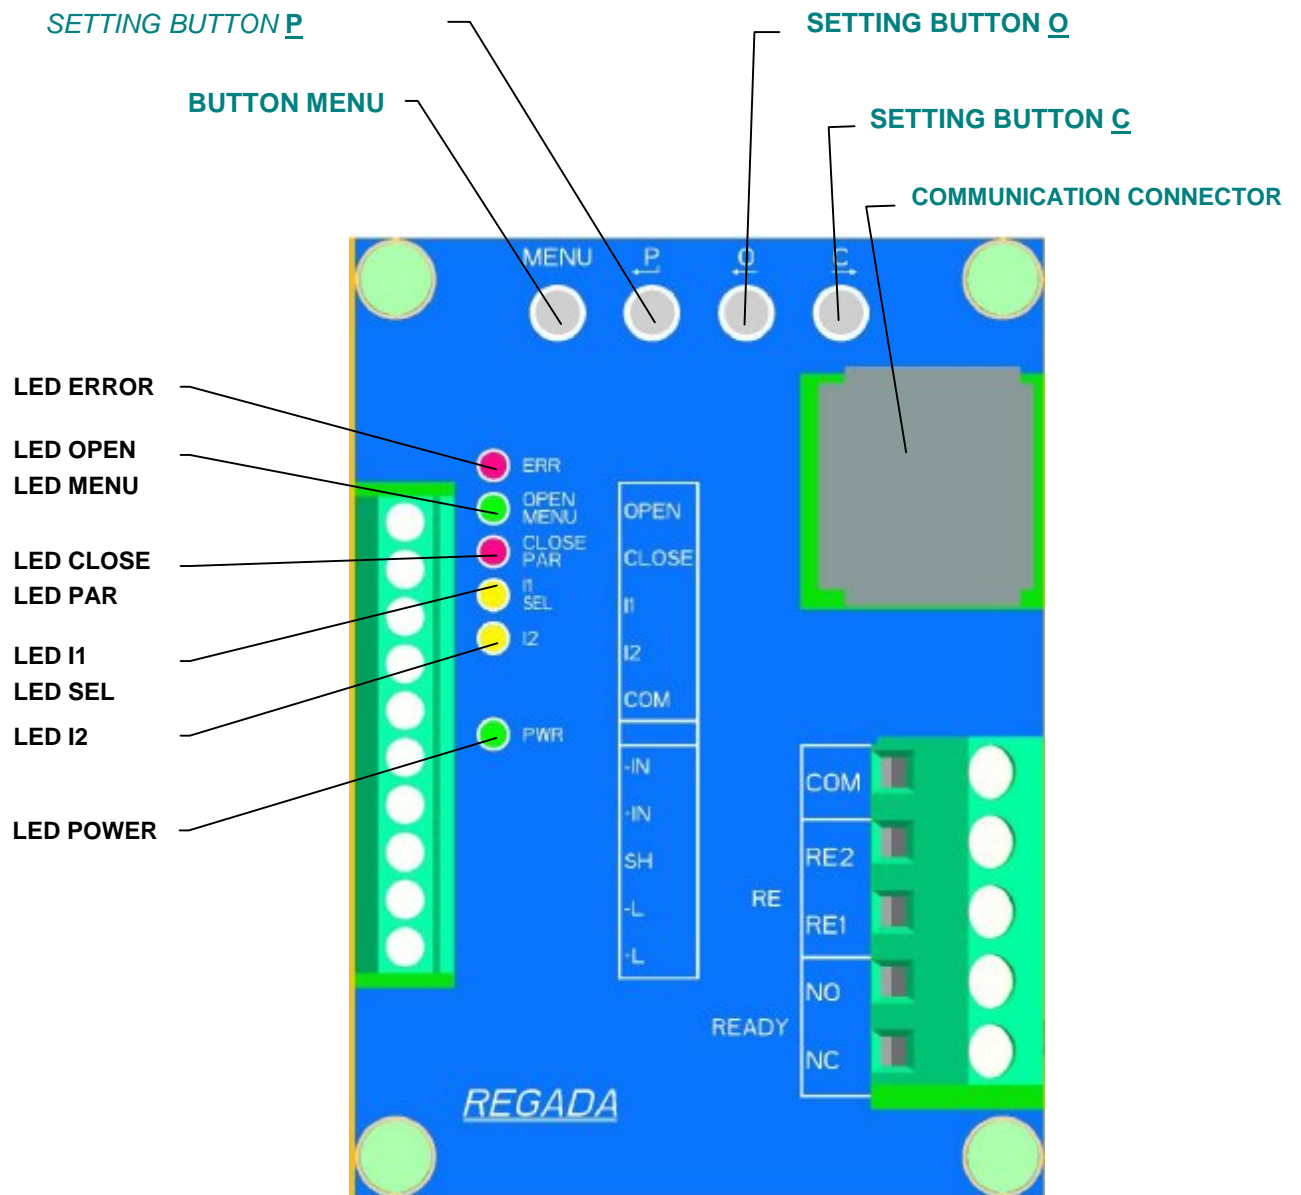

Fig. 6
The adjustment can be performed at a mechanically and electrically connected EA. This chapter describes how to set up the EA to parameter values within a range applicable for the software. Laying of adjusters of the control board is shown on **Fig.6**.
- by operating the control unit buttons (**see Fig. 6**);
- six signal lamps according (LED diode) to **Fig. 6**.